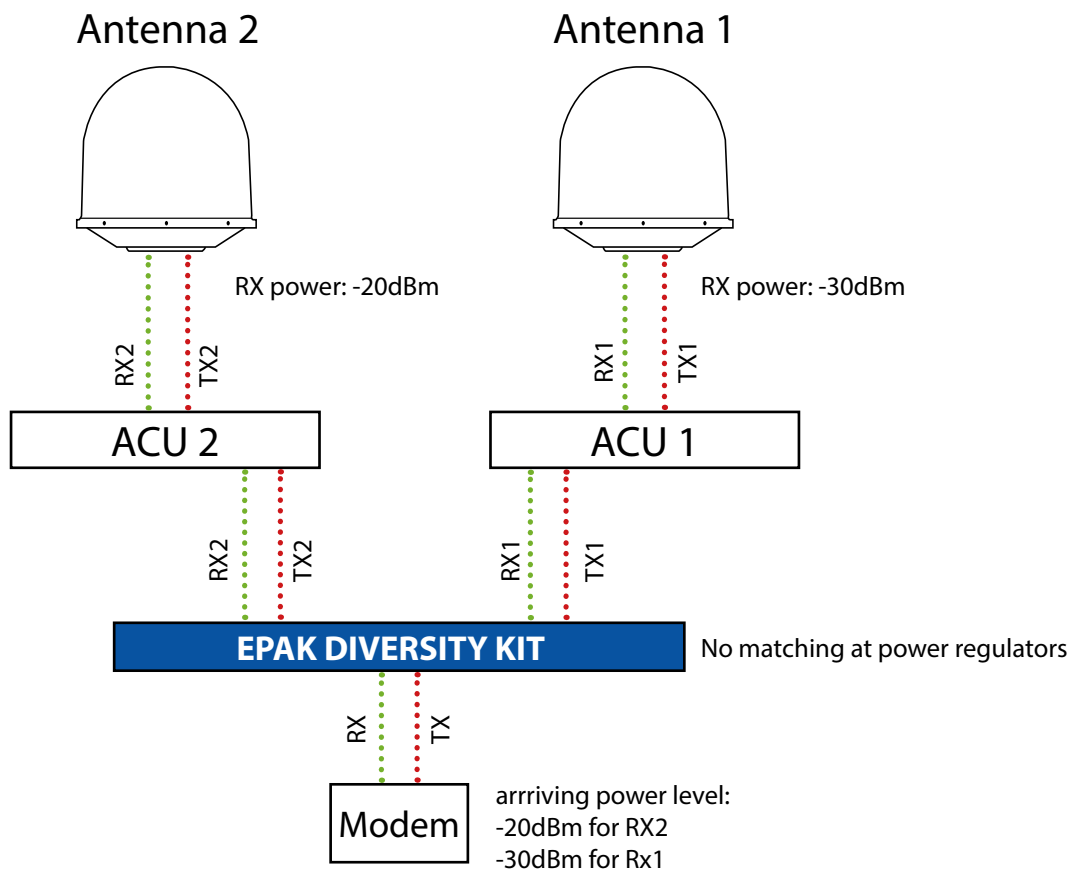

Fig. 4: Example for the mismatching power levels of RX at the inputs of the modem.
**Explanation:** Fig. 4 shows an example of mismatching RX power levels. Antenna 1 has an RX power output level of about -30dBm and antenna 2 has an RX power output level of about -20dBm.